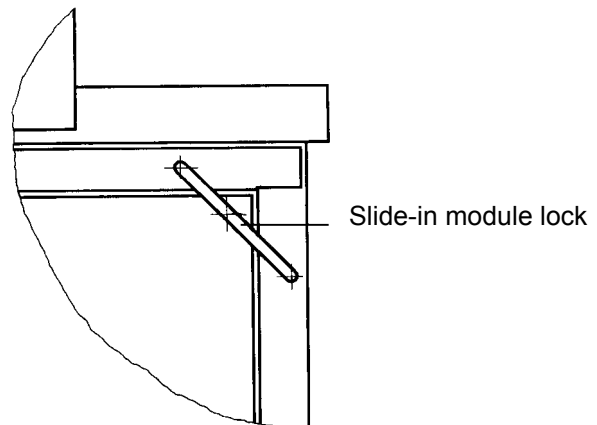

fig. 6 Detail Test Bench - Back View
- Loosen slide-in module lock (↓ see Fig. 6).